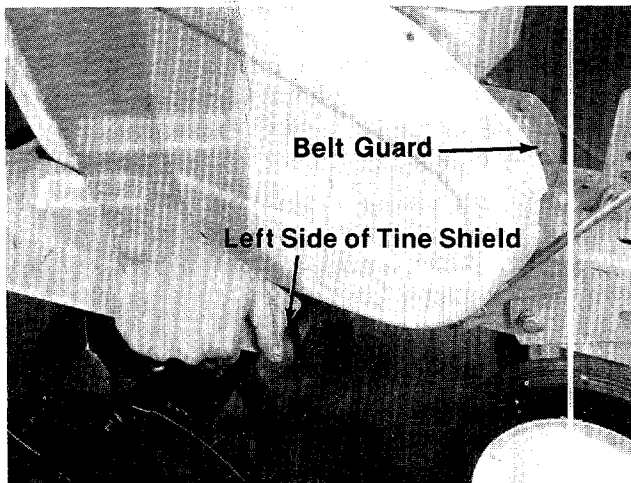

FIGURE 20.
1. Remove the belt guard, by removing four (4) hex self-tapping screws.
2. Press down on the left side of the tine shield and slip off the belt guard. See figure 20.